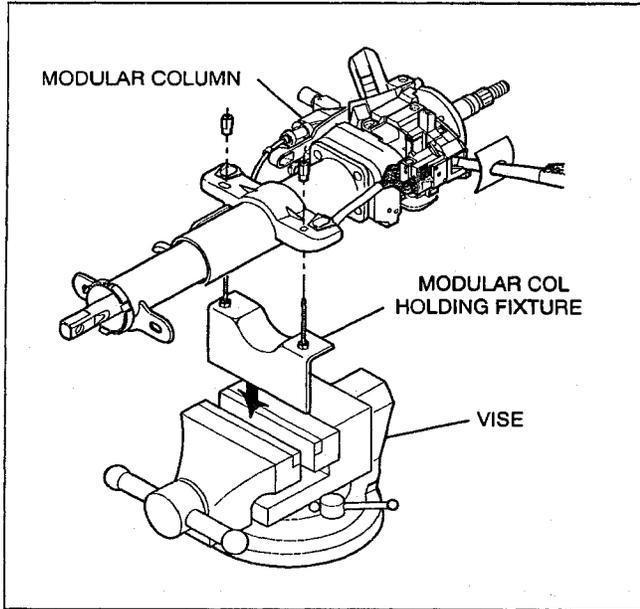

Figure 3 - Modular Column Holding Fixture
- Place holding fixture into vise. (See Fig.3)